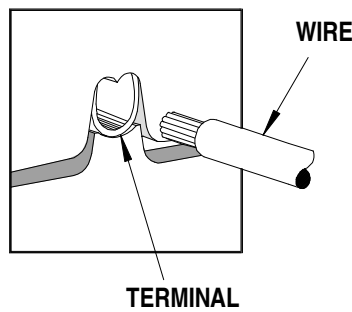

Figure 2
3. Insert the properly stripped wire into the terminal. See Figure 2 and 3. Cycle the tool.